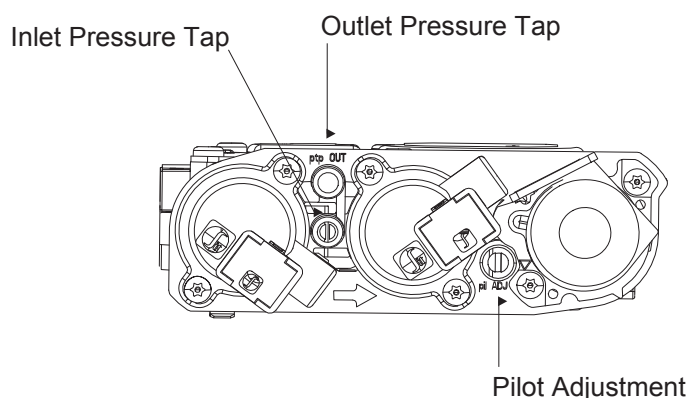

Figure 34 - Gas Pressure Check at Gas Valve
5. To check gas pressures at valve, turn captured screw counter clockwise 2 or 3 turns and then place tubing to pressure gauge over test point. Turn unit to high. *See Figure 34.* After taking pressure reading, be sure and turn captured screw clockwise firmly to reseal. Do not over torque. Check test points for gas leaks.